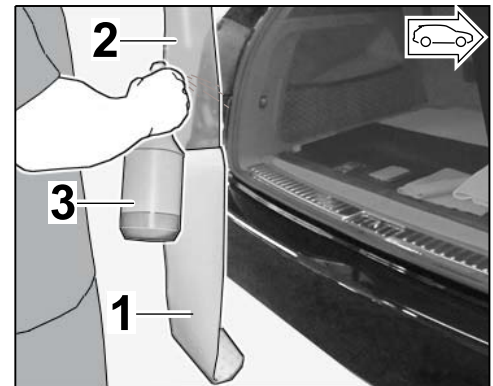

Figure 4
- 3 (2) – Soap solution for "wet bonding"
2.1 Pull backing sheet off protective film and coat protective film with soap solution(⇒ *Figure 4*).